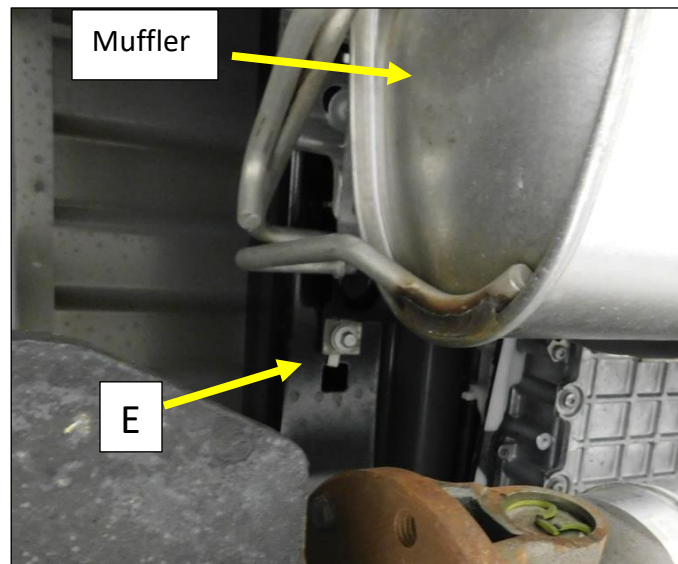

Figure 3
6. Remove the (x3) bolts at the frame hanger (C) and the x1 bolt at the muffler hanger (E). **Fig. 3**